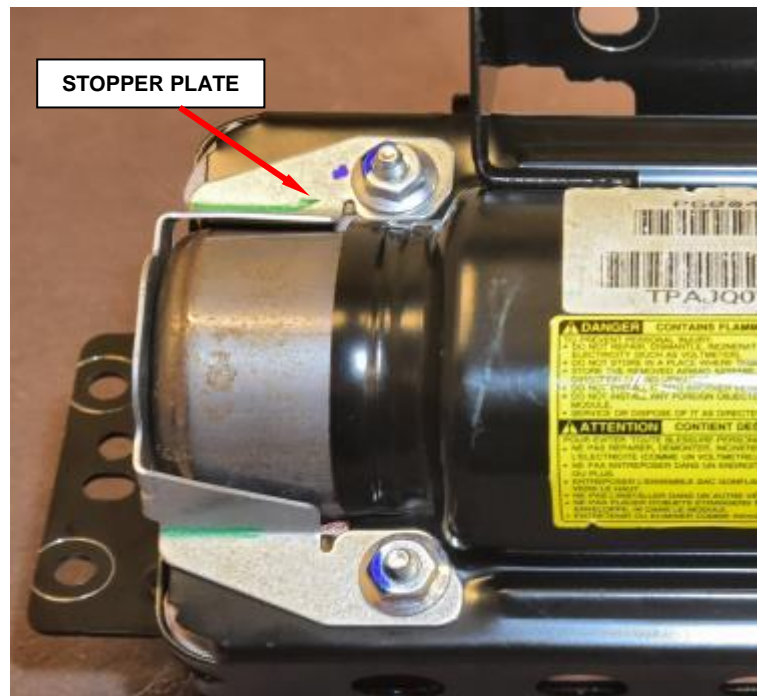

Figure 41 – Stopper Plate
- c. Remove and save stopper plate from housing (Figure 41).
- m. Position the stopper plate to the airbag housing (Figure 41).